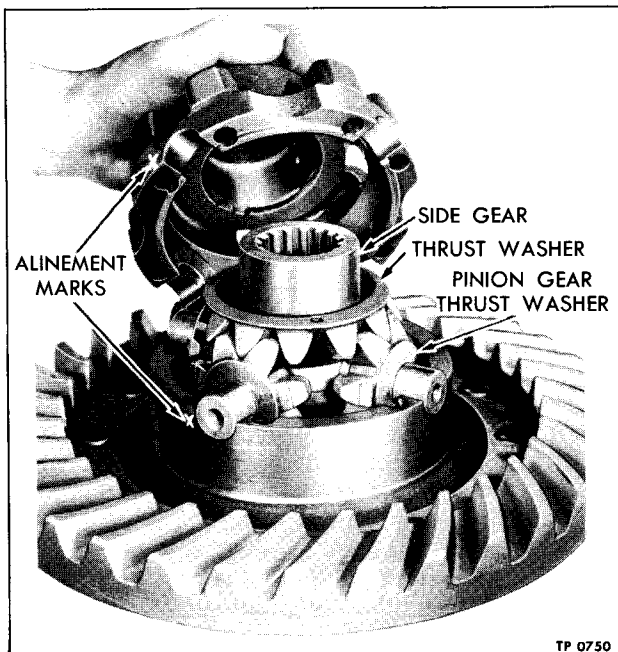

Figure 7—Differential Case Alignment Marks
1. Mark both halves of differential case (2) so halves may be reassembled in original positions (fig. 7).
shown in figure 7. Install case bolts (47) downward through both halves of case.
5. Install nuts (5) on four equally spaced bolts (47), and tighten to torque of 185-205 foot-pounds. Check assembly for free rotation. If rotation is free and smooth, install remaining bolts and nuts and tighten to recommended torque.
6. Position drive gear (1) on flanged half of differential case (2), with alignment marks, stamped on plain case and drive gear, opposite each other. Install and tighten bolts (15) to 290-320 foot-pounds torque. Install lock wire (14) through bolt heads in such a manner that lock wire will become tighter if bolts should become loose.
7. Press differential side bearings (43) on hubs of differential case (2), until bearing cones seat firmly.